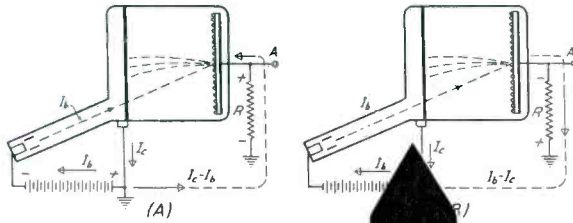

Fig. 10.—Relation between beam, collector and signal currents, for scanning of dark and of a illuminated globule.
In Fig. 10(A) are shown the conditions when a dark globule is scanned. The collector current I_c in this case exceeds the beam current I_b , and the difference, $(I_c - I_b)$, flows up through R and into the signal plate, where it is stored as a bound charge equal and opposite to that of the bombarded dark globules. It will be observed that the excess electron current $(I_c - I_b)$, flows up through the coupling resistor R , and since electrons flow from negative to positive, the top end of R , or terminal A , is positive to ground.